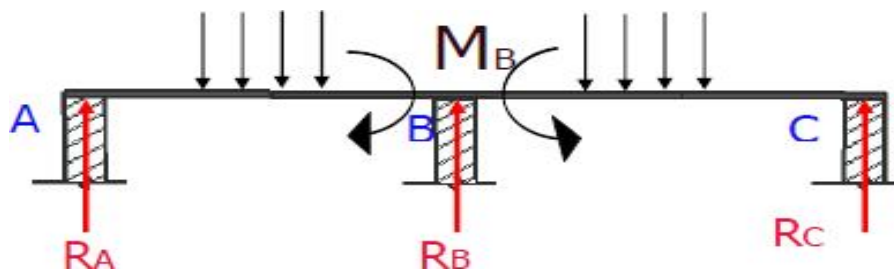

Fig 3.9 Continuous Beam
5. **Continuous beam:** It is a beam which rests over a series of supports at more than two points as shown in Fig 3.9.